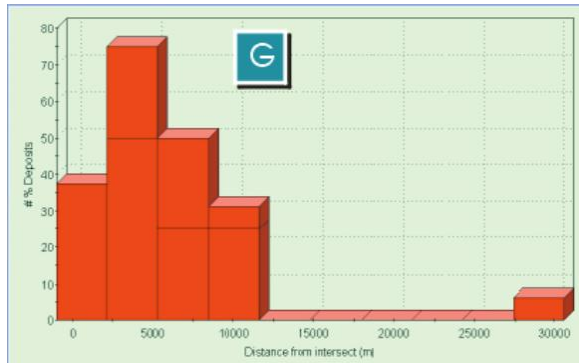
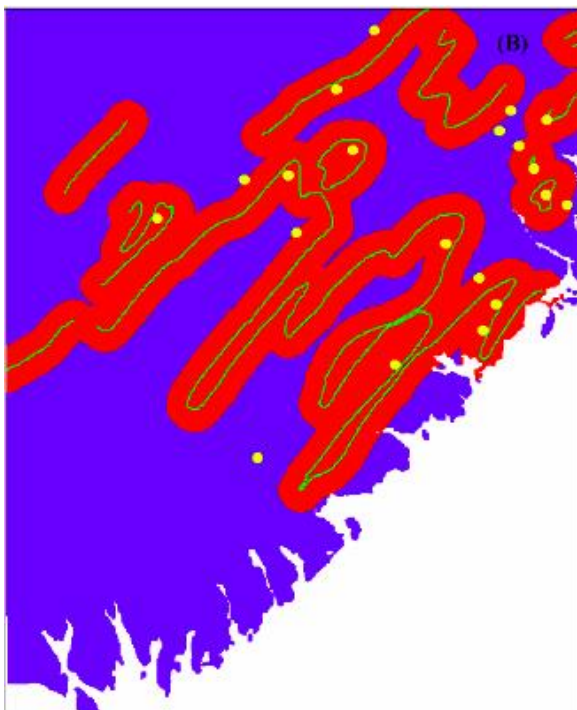

Fig. 2 A histogram showing the number of mineral deposits located in areas with distance from the contacts of GF and HF.
Fig. 3 Binary map obtained on the distances from contacts of Goldenville and Halifax Formations
According to the histogram you created in your second assignment (similar to the one shown in Figure 2), based on the frequency distribution of mineral deposits (points) located with distance (unit of 500 meters) from the contacts (common boundaries) between Godenville Formation (GF) and Halifax Formation (HF), you can reclassify the distance into two classes to be labeled as 1 and 0, respectively. The class labeled as 1 is the distance from the contacts (common boundaries) between Godenville Formation (GF) and Halifax Formation (HF) favorable for gold mineral occurrences whereas the class labeled as 0 is the non-favorable distance for gold mineral occurrences. A threshold or cutoff value can be used to separate the classes of distances. Such threshold or cutoff value can be determined in such that the favorable distance is the distance within which it has about 85% of points and beyond the distance it has at most 15% points. Please develop a model of ArcGIS processes that would be followed to generate the binary map. Display the points on the binary map to show the spatial relationship of location of points and the binary distance map. Print out the binary map and include it in your report (similar to the map shown in Fig. 3). Discuss your findings. How many points are located in the favorable class you defined?